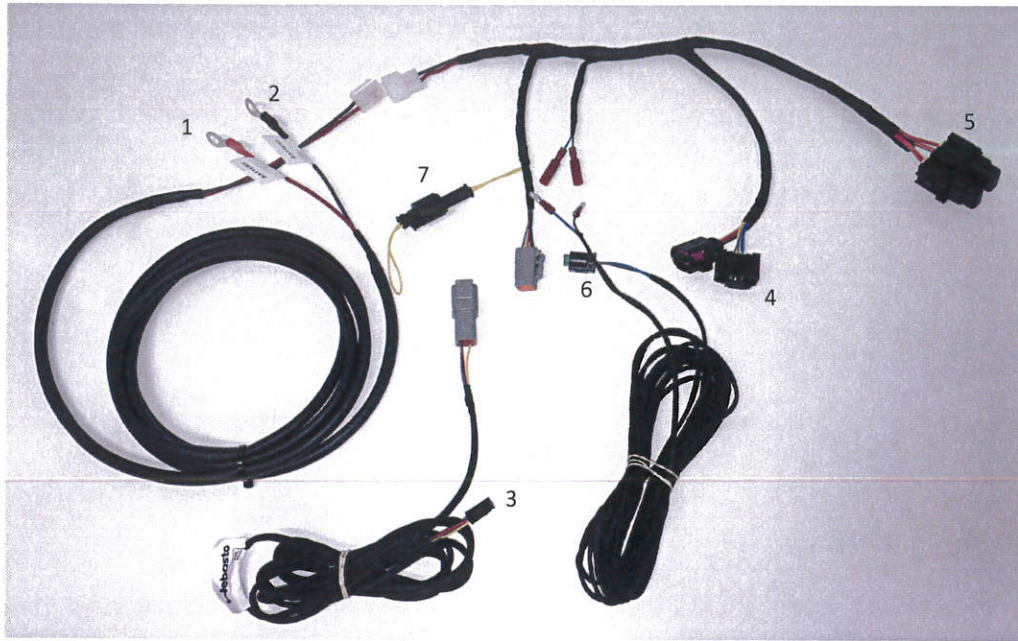

Fig 9 - Main Wiring Harness. All connections are labelled for ease of installation.
Note: Ensure that the red positive and brown negative is connected directly to the house battery for correct shut down cycle, using the fuses supplied in the kit. (Fig 9, item 5)